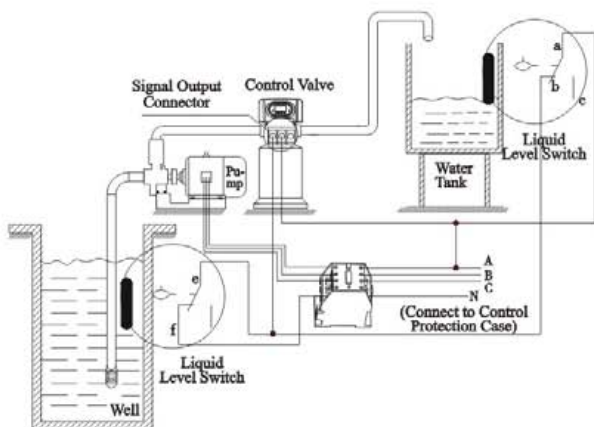

Figure 3-6 Wiring of Liquid Level Switch in Water Tank Controls Inlet Pump
3) Liquid Level Switch in Water Tank Controls Inlet pump (Three-phase refer Figure3-6) (Set b-01)